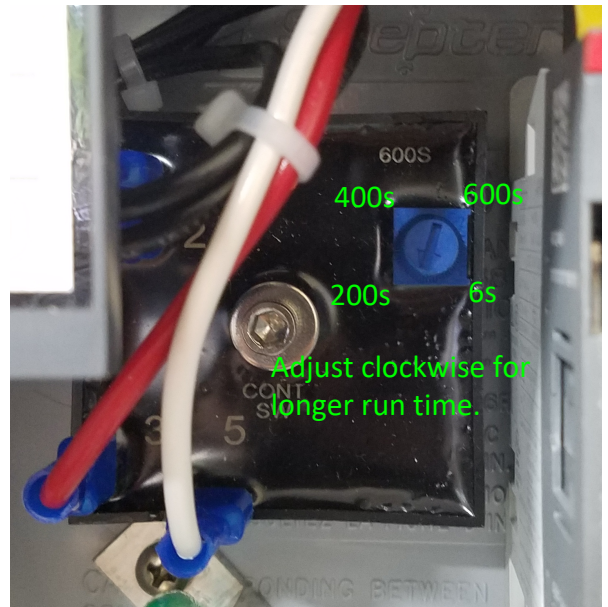

Fig. 4
**3.12** When the pressure reading on the gauge stops climbing and remains steady at its maximum the pressure tank is full, this will typically be around 57 PSI. If necessary, adjust the timer (pg. 10, fig. 4) so that the Home Hydrant PW shuts off approximately 10-30 seconds after the pressure gauge stops climbing and the pressure tank is full. This will allow the tank to fill to maximum capacity and for any pressure fluctuations in the system to abate.